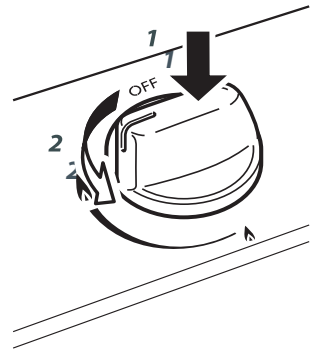

Fig. 13 Pressing then turning the control knob
- 2 Press the knob down gently and turn it anticlockwise to the  position (Fig. 13). The ignitors on all the burners will spark.